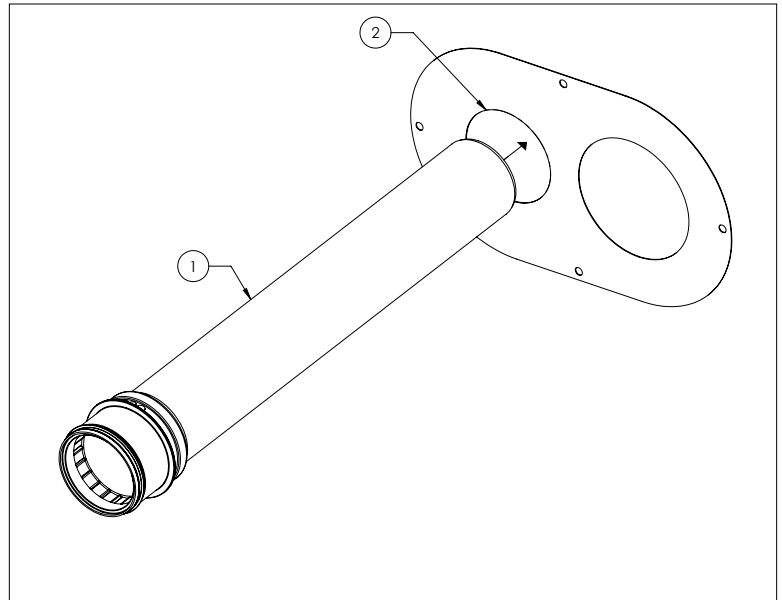

Figure 3
1. Slide PP pipe with PVC adapter (1) into small hole of retaining plate (2) until it stops on the adapter collar (3). See **Figure 3 and 4**.